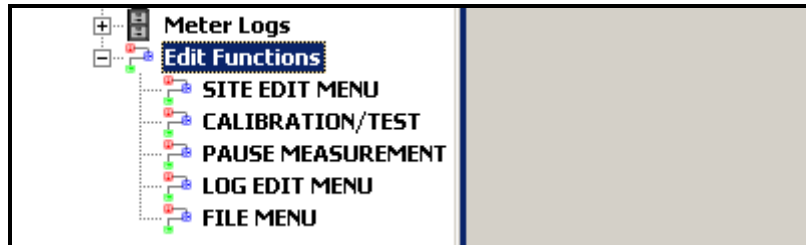
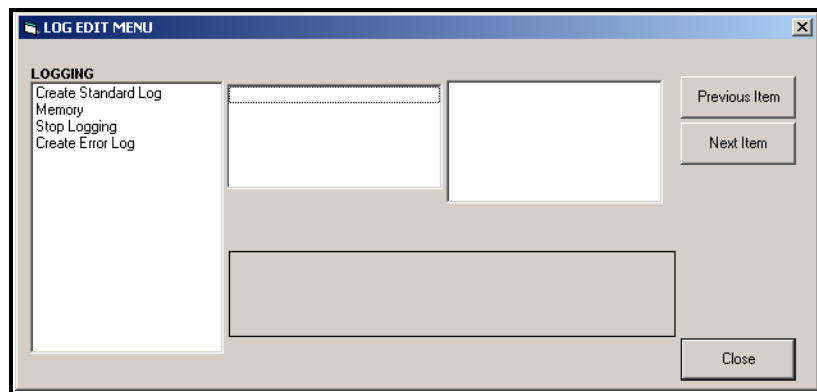

Figure 3-1: The Edit Functions Menu for an XGS868i with a Logging Card
Figure 3-2: The Log Edit Menu Window
1. From the *New Meter Browser* in PanaView, expand the network tree and open the *Edit Functions* option (described on page C-6 of Appendix C, *Programming the XGS868i via PanaView*). The menu will appear similar to Figure 3-1 below.
2. Double-click on the *Log Edit Menu*, as shown in Figure 3-1 above. The window appears similar to Figure 3-2 below.